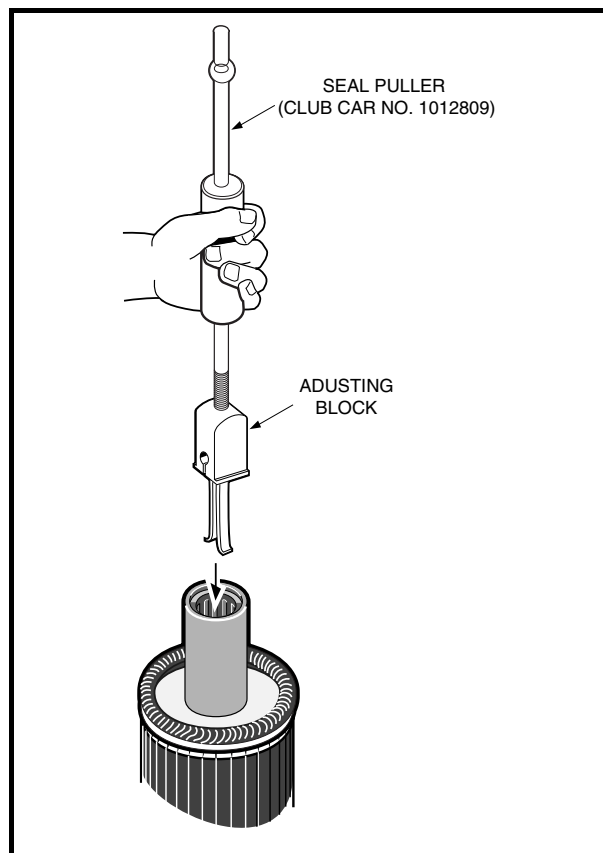

Figure 15-13 Guide Ring Removal
2. Insert fingers of a seal puller (Club Car Part No. 1012809) through guide ring (18) (approximately 3/4 in. (19 mm) into the shaft). Turn the adjusting block to expand the fingers until they are wedged under the bottom edge of the guide ring. Remove the guide ring by quickly and forcefully sliding the ram up the tool shaft and against the stop (**Figure 15-13, Page 15-11**). The guide ring may also be removed using a small pry bar.